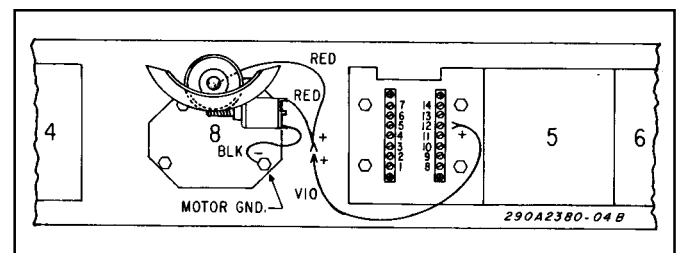

Figure 4.
b. If position eight was chosen (JSTRM only), connect the female terminal on red and black wires of rotating reflector as shown in figure 4.